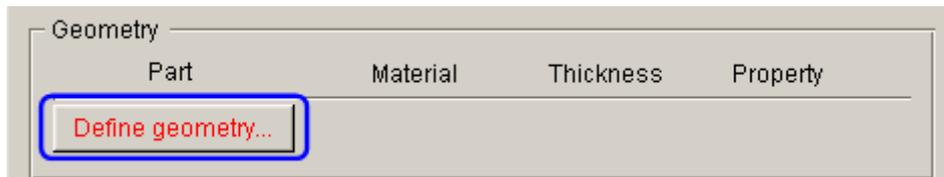

Figure 3.7 Define tube
- Then click **Parts...** button from **Geometry** field in the tube definition interface, as illustrated in Figure 3.7.